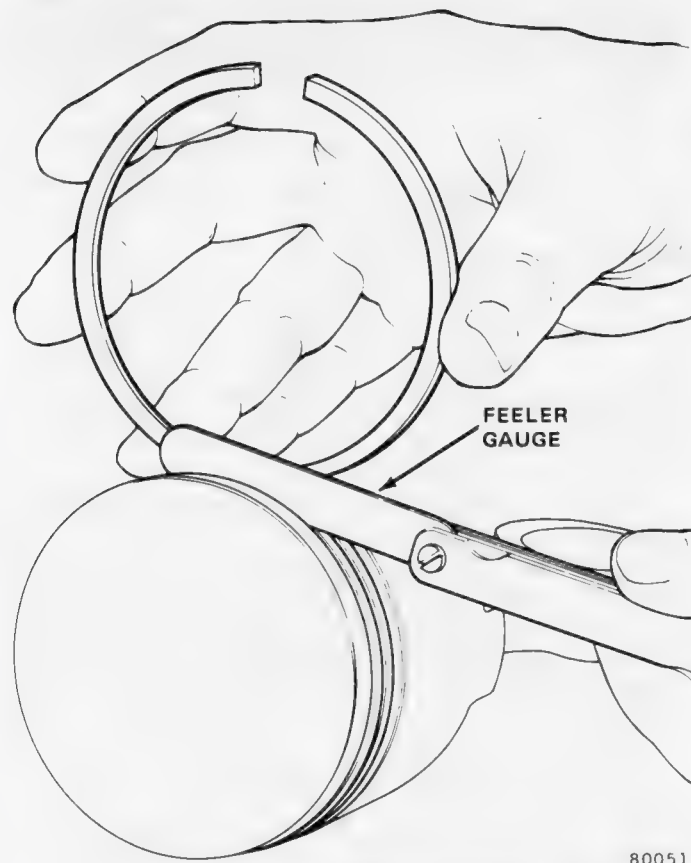

Fig. 1B-108 Ring Side Clearance
(2) Check ring side clearance with feeler gauge fitted snugly between ring land and ring. Rotate ring in groove. It must move freely at all points (fig. 1B-108). Refer to Specifications for correct ring side clearance.
(3) Place ring in bore and push down with inverted piston to position near lower end of ring travel. Measure ring gap clearance with feeler gauge fitting snugly in ring opening (fig. 1B-109).